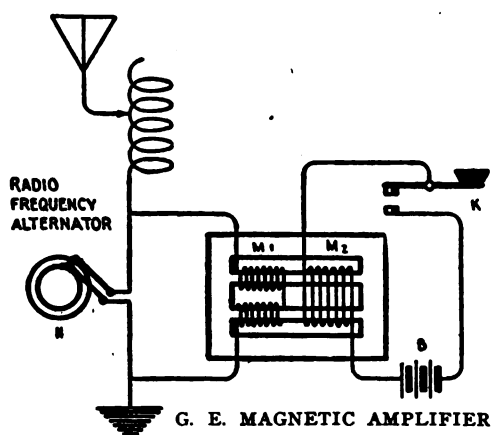
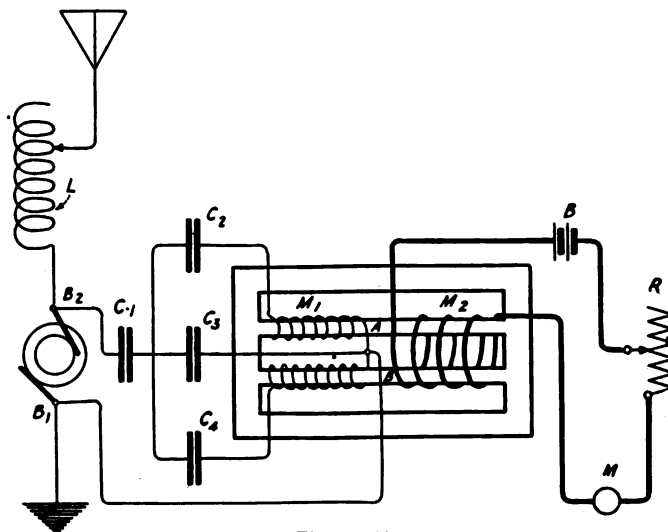

Figure 188
Figure 189
With the connections of figure 189 applied to a particular set of his design, it was shown by Alexanderson that a current of 0.2 ampere turned on and off in the coil M-2 caused the output of a 50 kw. radio frequency alternator to vary between 5.8 kw. and 42.7 kw.—a variation of 37 kw.
- (1) The branches of M-1 in figure 189 are in parallel instead of in series as in figure 188.
- (2) This connection gives a lower impedance, which, with a certain control current in M-2 gives greater sensitiveness and permits the handling of large currents without arriving at an undesirable condition of instability of operation.
- (3) The effect of the condensers C-2 and C-4 is as follows: If the branches A and B were in parallel without condenser C-2 and C-4 in series as shown in this diagram, and the control current in M-2, for example, was varied at an audio frequency, there would be produced a short circuit current between the branches A and B, without producing any flux variation for the radio frequency current; but since the branches A and B
Figure 190*—Showing how condenser C-1 in figure 189 increases the sensitiveness of the magnetic amplifier. The horizontal axis shows the DC excitation current and the vertical axis shows the actual antenna current. It is clear that with the condenser of .33 microfarads and with DC excitation current less than 2.8 amperes, the change in antenna current is very much greater than with the other two values of capacity shown. Besides a linear control of the antenna current is secured
Figure 191*—Showing how the impedance of the magnetic amplifier varies with different alternator voltages and different values of DC excitation current in the control winding of M-2, figure 189
For example, at 800 volts the current through the amplifier varies from 10 amperes for zero current in the DC control circuit to 60 amperes for 1.2 amperes in the DC control circuit. In other words, if a telegraph key be inserted in the DC control circuit of figure 189 and the magnetizing current in M-2 be varied from zero to 1.2 amperes the alternator output would change between 60 and 10 amperes and there will be a corresponding change of current in the antenna circuit
Again at 1200 volts, the current through the amplifier varies from 15 amperes for zero DC control current to 60 amperes for 1 ampere DC control current; and at 800 volts the current from the amplifier varies to 10 amperes for zero DC control current to 33 amperes for .6 amperes DC current. It is clear that with a given alternator and amplifier, some combination of DC current and alternator voltage can be selected whereby a ridiculous small value of DC excitation current can cause an extremely large variation in the output of the alternator. Particularly so, if the capacities of the condensers shown in figure 189 are properly chosen